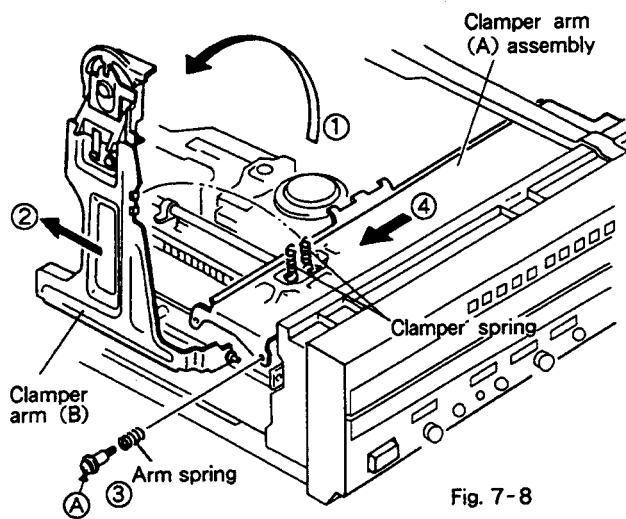

Fig. 7-8
7.4 REMOVING THE CLAMPER ARM (B) AND CLAMPER ARM (A) ASSEMBLY (Fig. 7-8)